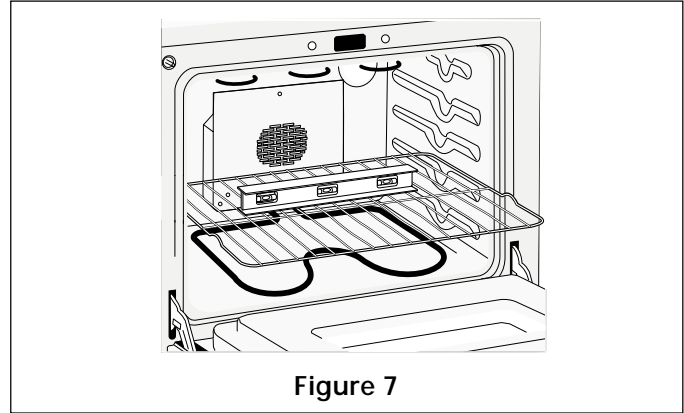

Figure 7
- G. **Level the range. The floor where the range is to be installed must be level** (see Figure 7).